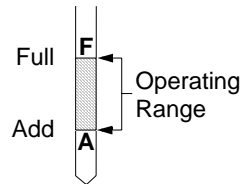
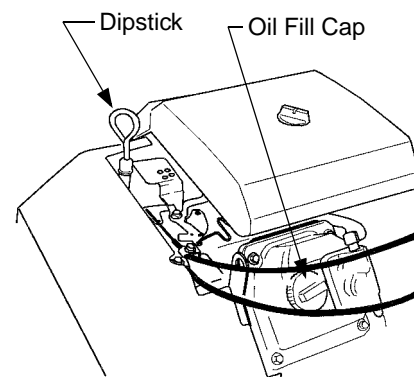
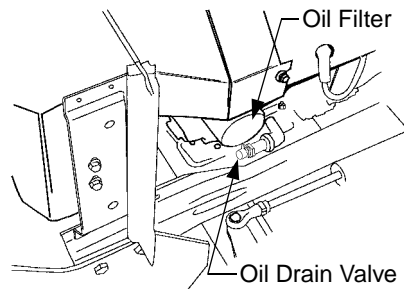

Figure 25
Figure 26
Figure 28
Before checking the oil level, clean the area around the oil level dipstick to prevent debris from entering the crankcase. See Figure 26. Always keep the oil level between the "FULL" and the "ADD" marks on the dipstick. See Figure 25.
- Clean the area around the oil filler cap to prevent debris from entering the crankcase. See Figure 26.
- Remove the oil filler cap from the left valve cover and SLOWLY pour in oil. Fill the crankcase until the oil level reaches the "FULL" mark on the dipstick. See Figure 25.
- Clean around the base of the oil filter, the oil filler cap, and the dipstick tube to prevent debris from entering the crankcase. See Figure 26 and Figure 28.